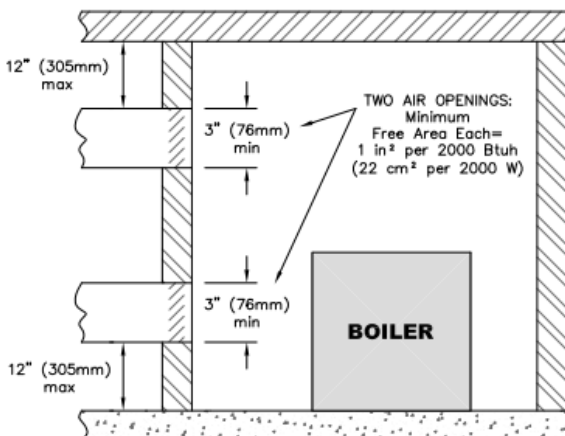

Figure 1.6: Air Openings – All Air from Outdoors through Horizontal Ducts
- Where communicating with the outdoors through horizontal ducts, each opening shall have a minimum free area of 1 in² per 2000 Btu/hr (22 cm² per 2000 W) of total rated input for all appliances in the space. See Figure 1.6.